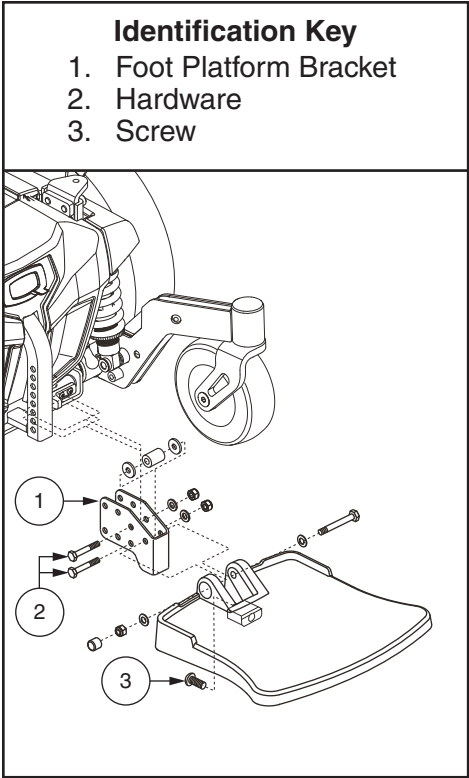

Figure 14. Foot Platform Adjustment
1. Remove the hardware from the foot platform bracket. **See figure 14.**
1. Flip up the foot platform and locate the screw. **See figure 14.**